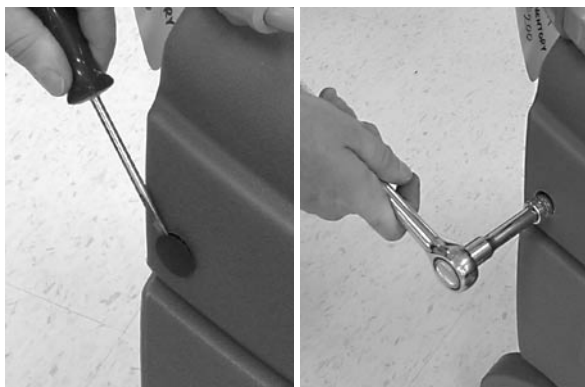

Fig. 2
2. Remove motor cover, flat head screwdriver and 10mm socket wrench required (Figure 2)